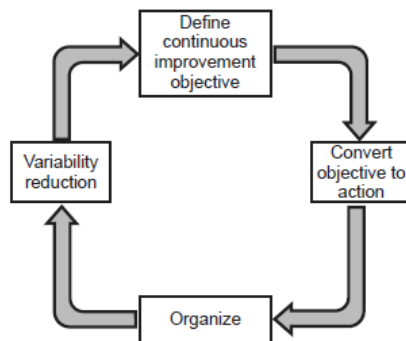

Fig. 4.1.1 Continuous improvement approach
- Fig. 4.1.1 shows a strategy used successfully in a number of organization. The continuous improvement process begins by defining an organizations current quality status.